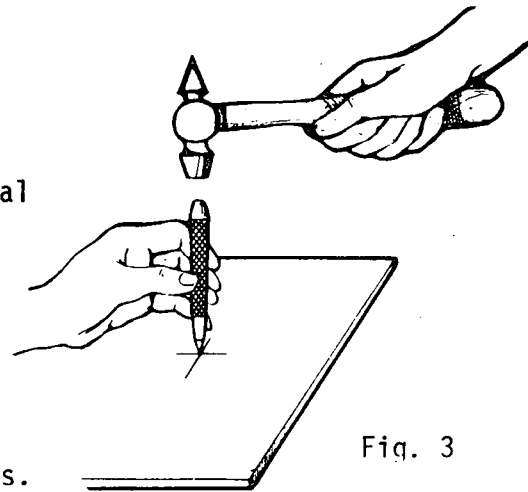

Fig. 3
- b) Raise the punch to a vertical position and tap it lightly with a hammer (Fig. 3).